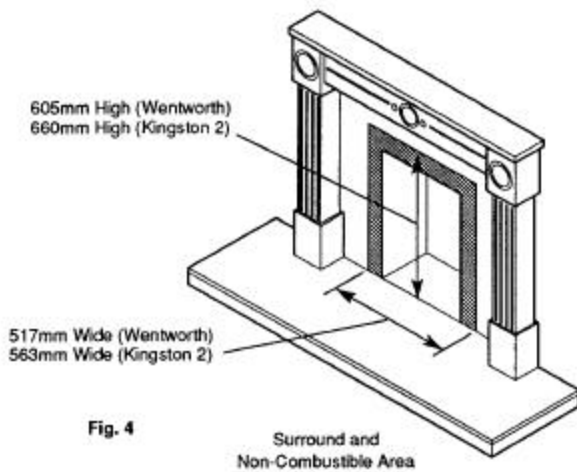

Fig. 4
3. The fireplace must have a flat vertical surface measuring 605mm (23 13/16in) high by 517mm (20 1/8in) wide (Wentworth) or 660mm (26 in) high by 563mm (22 5/32 in) wide (Kingston 2), centrally placed about the opening. This allows an effective seal to be made between the wall and fire. **Also this area must be of non-combustible material.** If a fire surround is to be fitted its rear section must meet the same requirements. Any gaps between the wall and surround must be sealed (Fig. 4).